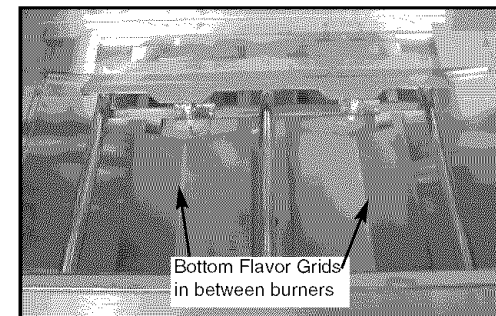

Fig. 15
1. Check to make sure the bottom Flavor Grids are correctly installed in the cutouts and around the ignitors, as they may have shifted during shipment. (See Fig. 15)